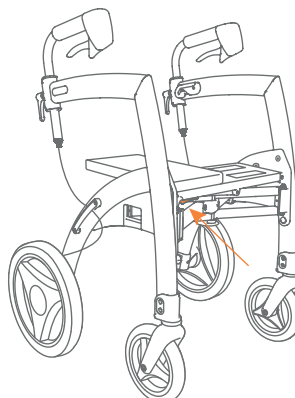
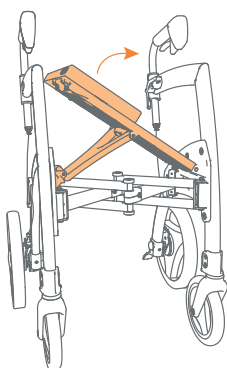

Figure 11A: Push the red handle while lifting the seat.
Figure 11B: Lift the seat partially.
- d. Push the red release handle under the seat (**Figure 11A**) and lift the seat partially (**Figure 11B**).